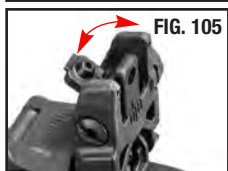

FIG. 105
- The Magpul® MBUS® rear sight has a dual aperture that is deployed by flipping the smaller opening aperture up into position (FIGURE 105) - or forward (down) to use the large opening. Use the larger aperture for normal range firing. Use the small aperture for longer range precision firing (FIGURES 106 and 107).